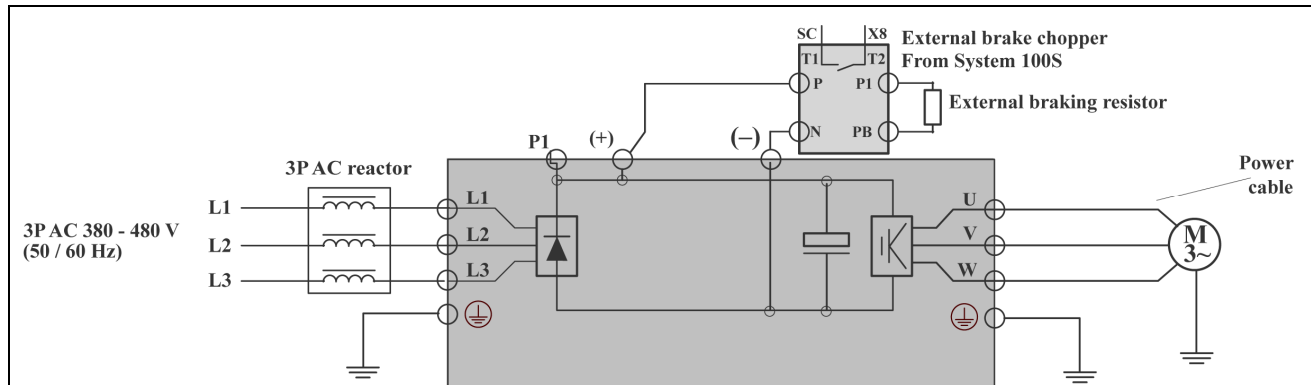

Fig. 14: Connection of the frequency converter to mains and motor
- Connect the external brake unit and the braking resistance according to Fig. 14.